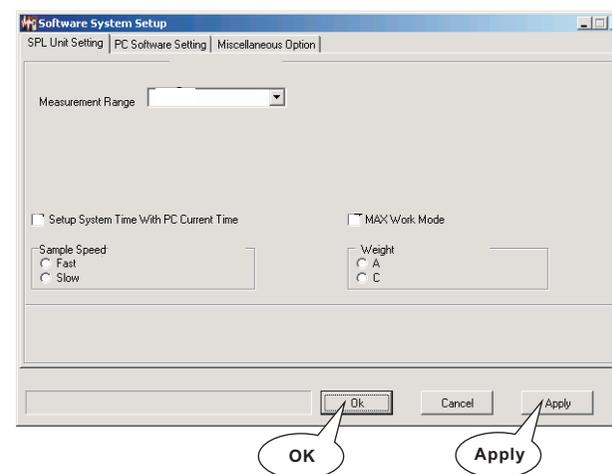

Figure 28
- Click System Setup in Option menu bar or System Option button in tool column will enter into defaulted option page SPL Unit Setting, as shown in figure 28: